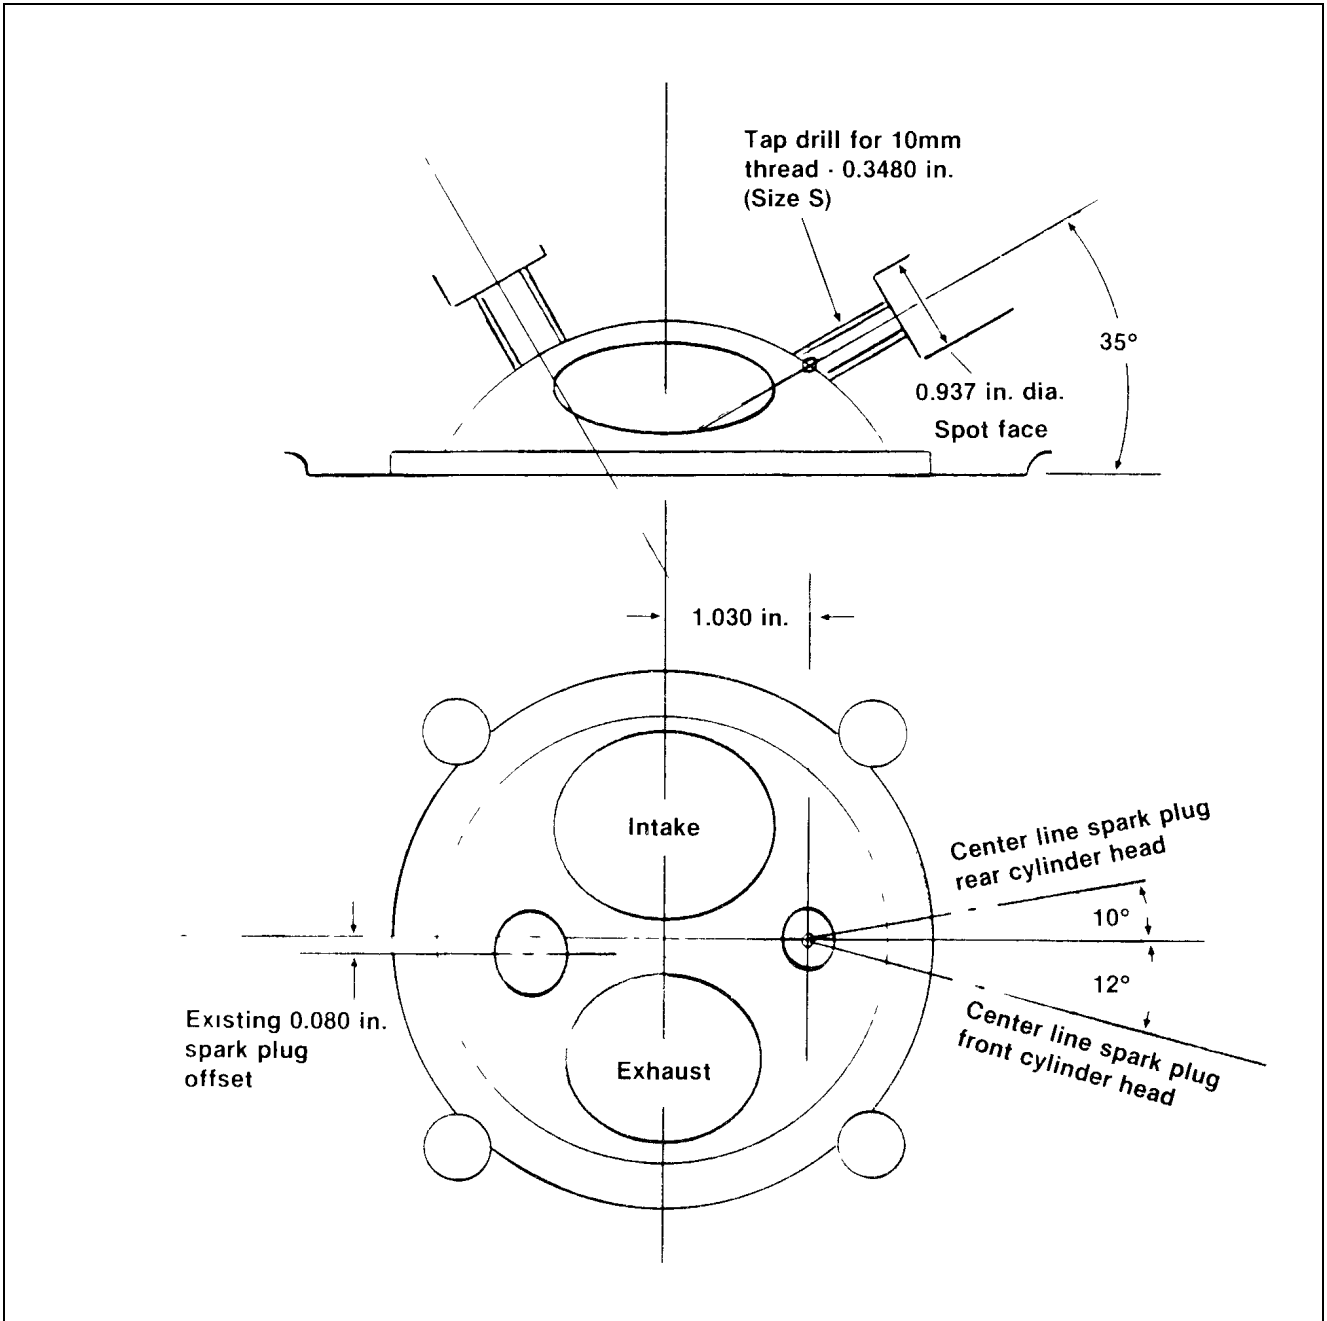

Figure 8. Installing Additional Spark Plug
See Figure 8. The engine will run cooler with an additional spark plug installed on the right side of the cylinder head. With two (2) plugs installed, make the following changes: